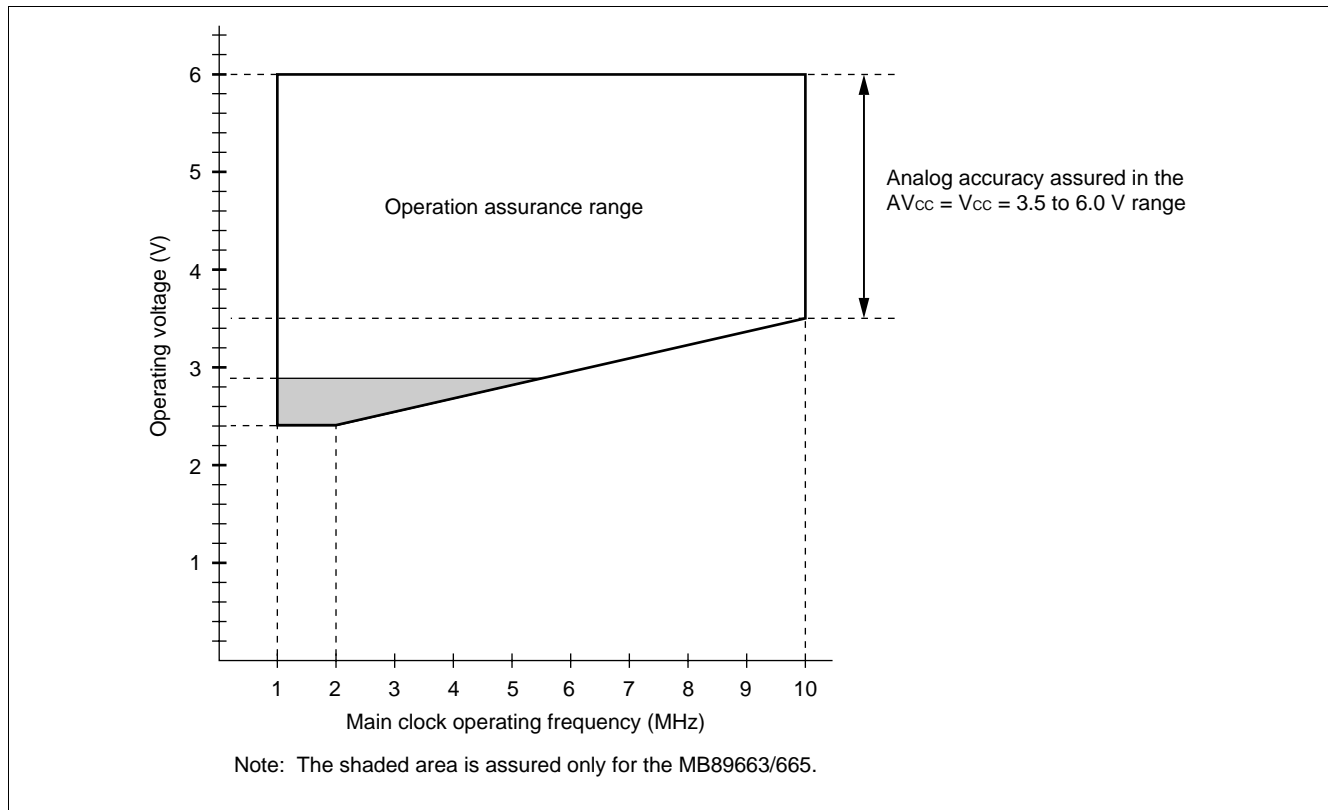

Figure 1 Operating Voltage vs. Main Clock Operating Frequency (MHz)
* : These values vary with the operating frequency and analog assurance range. See Figure. 1 and “5. A/D Converter Electrical Characteristics.”